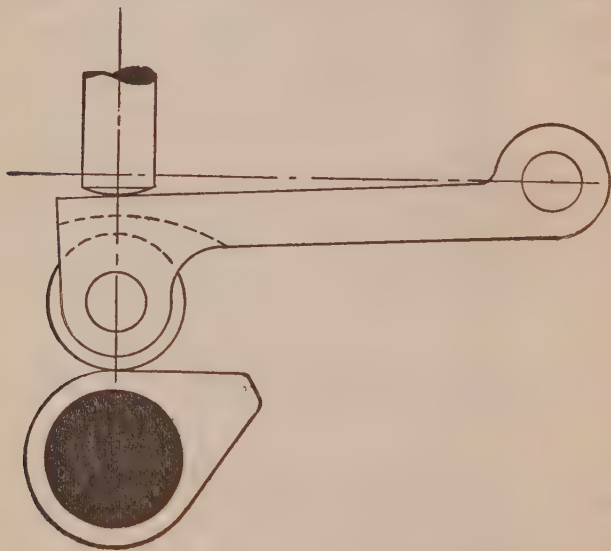

Fig. 135.—Valve cam device with roller mounted on carrier. This design is frequently used to reduce the side thrust upon the push rod.
**Ans.** Although the cams cannot be shifted out of time with each other, it is possible that the surface of some may be worn more than others, or on such engines where the cams act upon rollers carried by the end of the push rod, as in figs. 122 to 124, or by a carrier as in fig. 135, the roller and pin may be worn to such an extent as to make proper timing impossible, without removal of the worn parts.